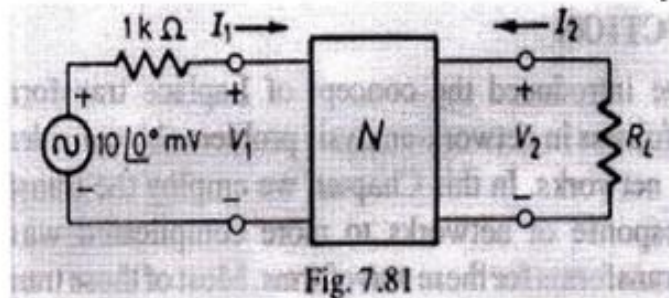

Fig. 7.81
16. The two-port network N shown in Fig. 7.81 has following h-parameters :